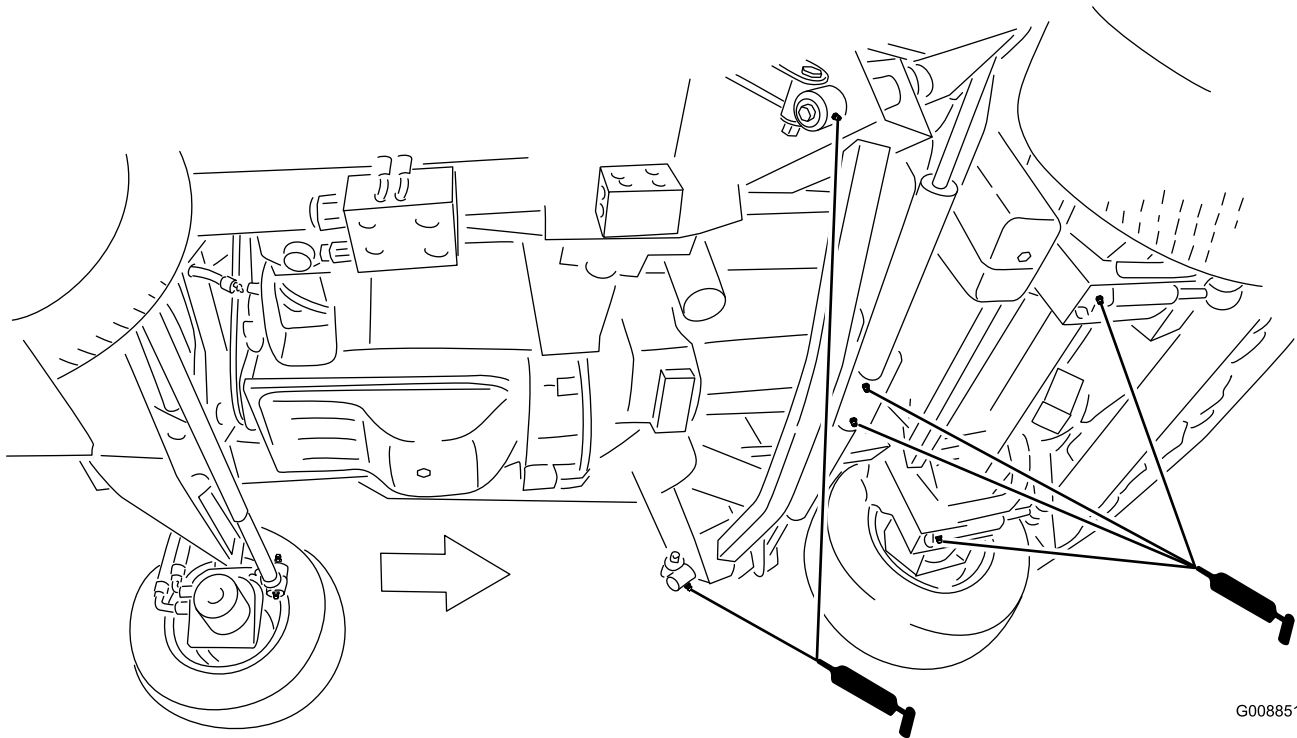

Figure 49
- Impact arms (2) (Figure 49)
- Front Deck Lift cylinder pivots (2) (Figure 49)
- Side Deck Lift cylinder pivots (2) (Figure 49)